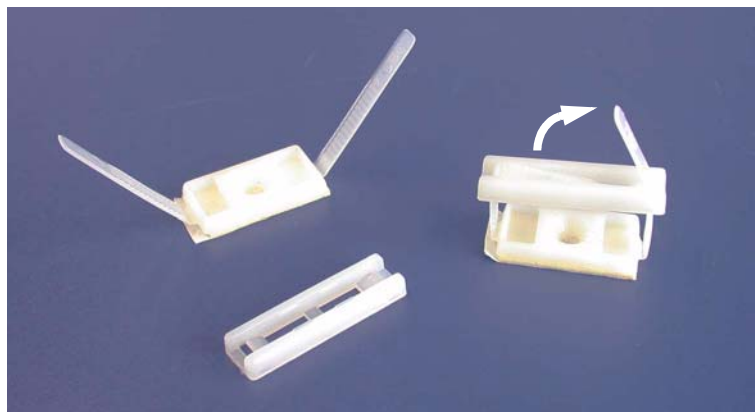

Figure 11-168. The construction of cable grip PN 361025
4. Remove the cables from the cable grips. (One grip comprises two parts, as shown in Figure 11-168. You open it by “unbending” the two plastic wings as indicated by the arrow in the photograph.)